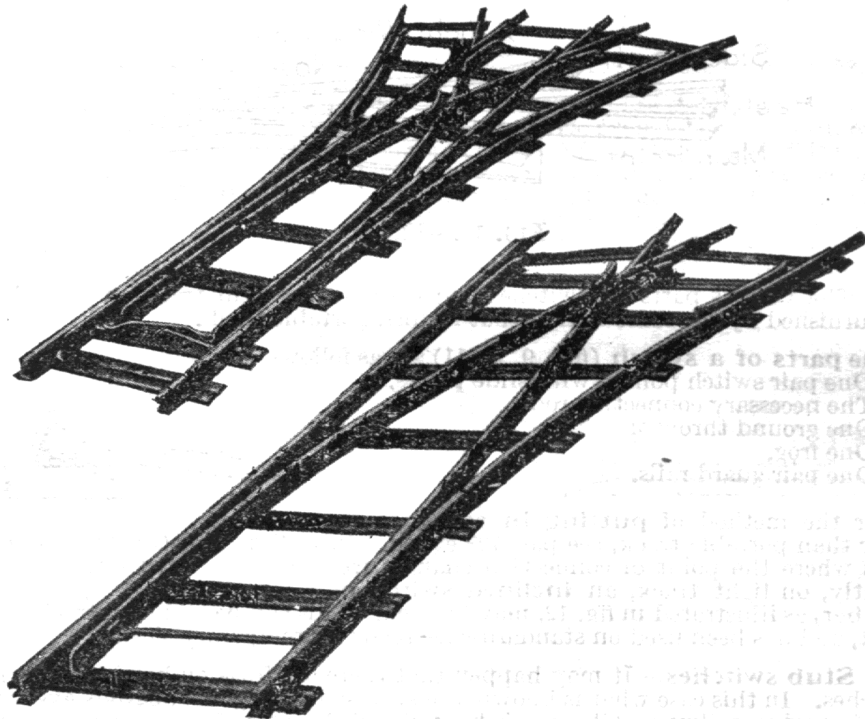

FIG. 8.—THREE-WAY AND RIGHT-HAND SINGLE SWITCHES.
14. **Switches.**—For a portable railway, **switch sections** are made that include the main track and turnout from the point of switch to beyond the frog. These switches are usually split switches, as illustrated in fig. 8, and can be purchased